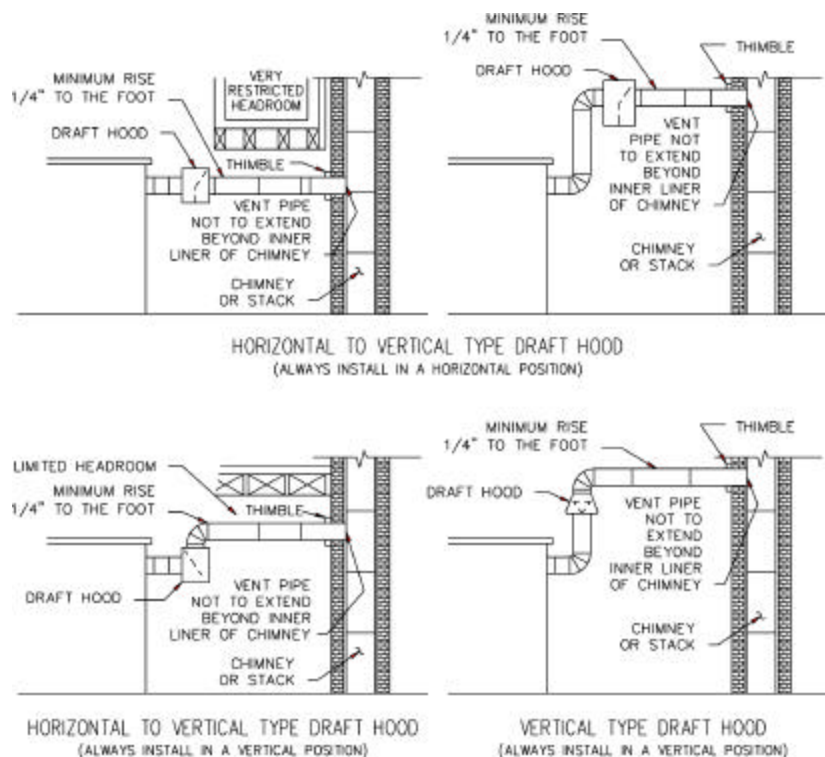

Figure 3: Recommended Locations for Draft Hoods
□ A draft hood or a barometric draft regulator shall be installed in the same room or enclosure as the equipment in such a manner as to prevent any difference in the pressure between the hood or regulator and the combustion air supply (see Figures 3 and 4). In no
Note: Figure 3 and 4 : Copyright by American Gas Association. Used by permission of the copyright holder.